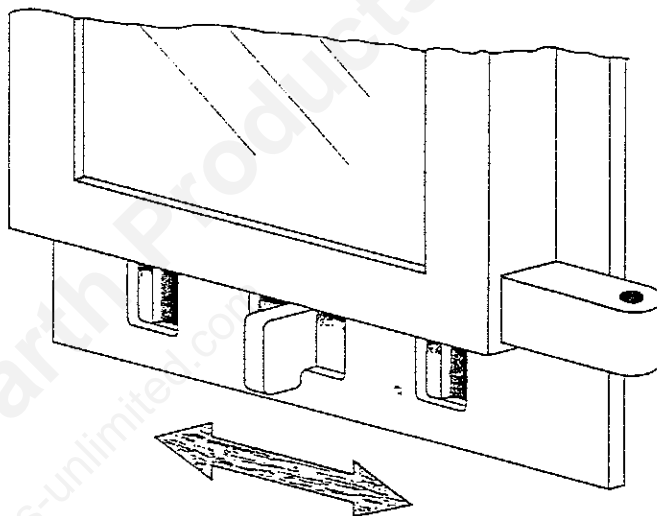

Fig. 9
1. Open the air shutter on each door (Fig. 9).
1. The temperature in the room and the rate at which wood is burned can be controlled by adjusting the air shutter (Fig. 9). Using the removable door handle, close the air shutter partially or fully to reduce the rate of burn and to reduce the rate of temperature in the room. Open the air shutters to their full open position for maximum room temperature and maximum rate of burn.